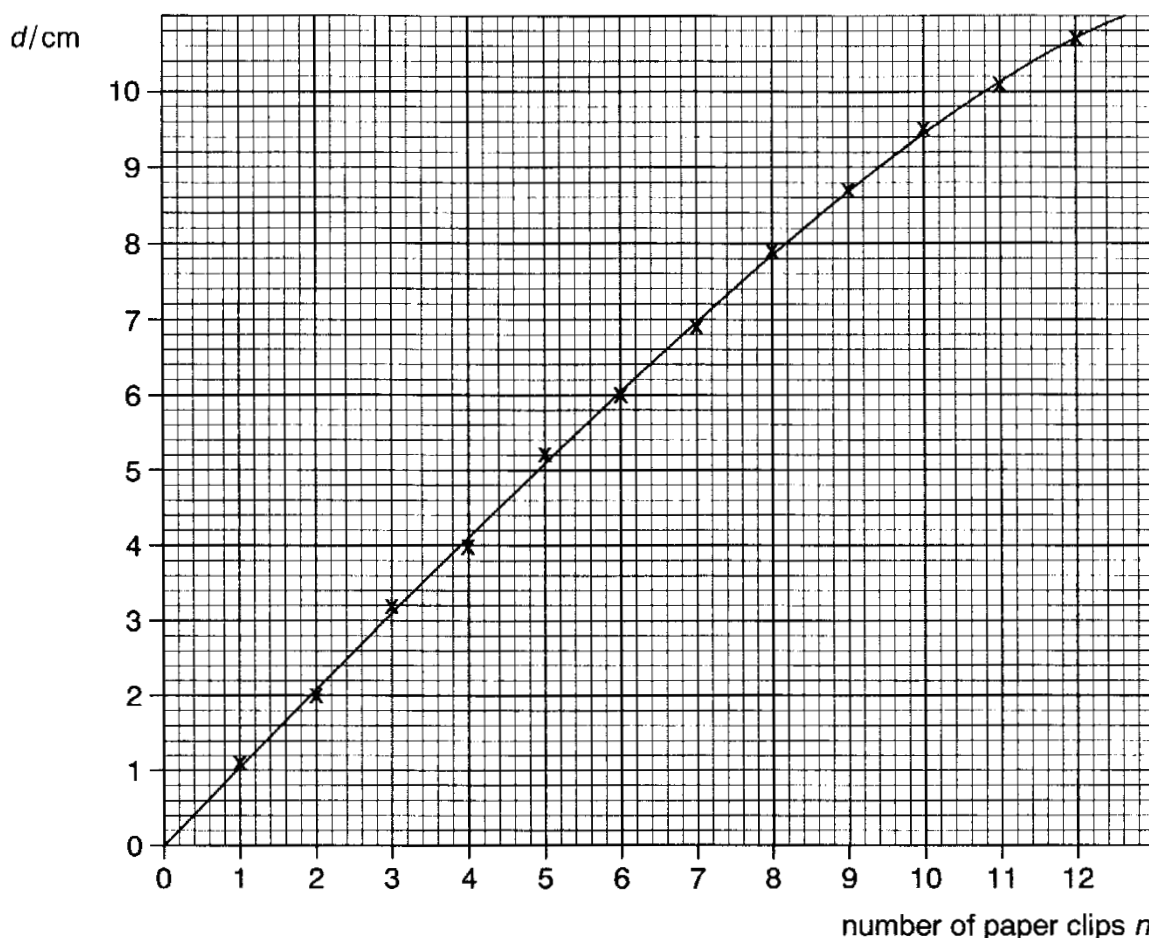

Fig. 7
- (e) The distance d moved by the pointer, for each number n of paper clips hung from the balance, was calculated from the values of h . The graph of Fig. 7 represents the results of one experiment.
- (i) From Fig. 7 determine the corresponding value for the number n of clips in use.